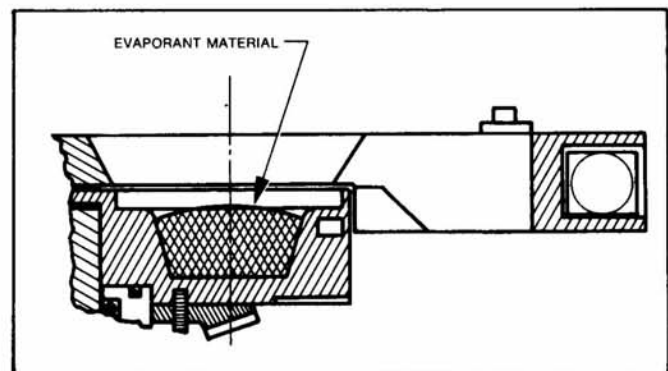

FIGURE 4
3. Check the crucible load to ensure that sufficient evaporant material is in the crucible. To avoid crucible damage, the Source should not be operated with less than half of the crucible volume filled. Refer to Figure 4.